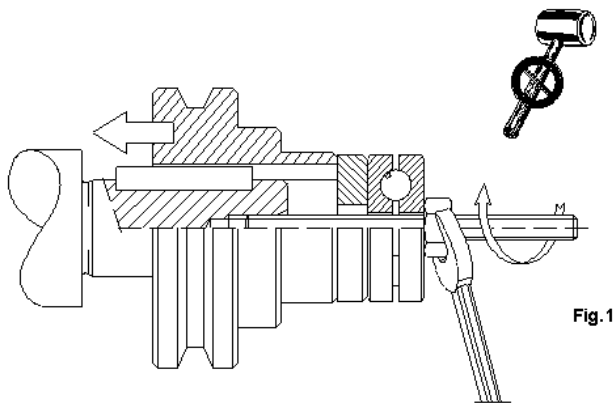

Fig.1
It is essential to assemble and disassemble the connecting parts to the shafts with the help of tie rods and extractors, using the threaded hole at the top of the shaft end and avoiding shocks and blows that may damage bearings, spring rings or other components, please refer to Fig. 1, 2 and 3.
- Fig. 1 **Example of correct installation of a part to the output shaft of a gear reducer.** We recommend to avoid using inadequate tools.